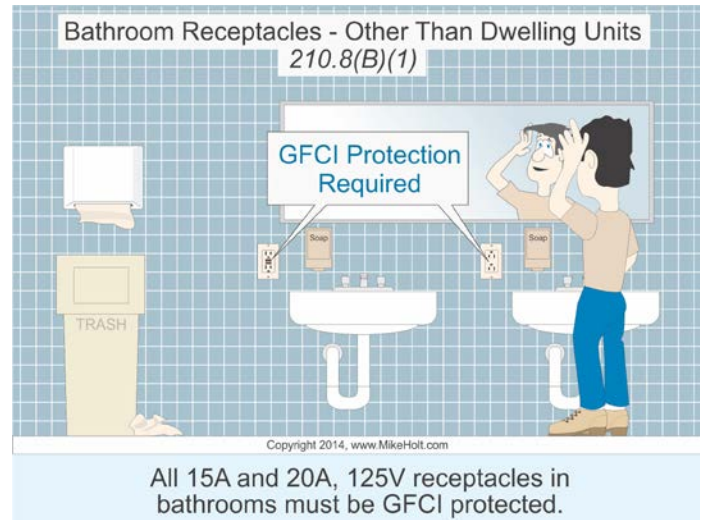

Figure 210-35
(1) Bathrooms. All 15A and 20A, 125V receptacles installed in commercial or industrial bathrooms must be GFCI protected. Figure 210-35